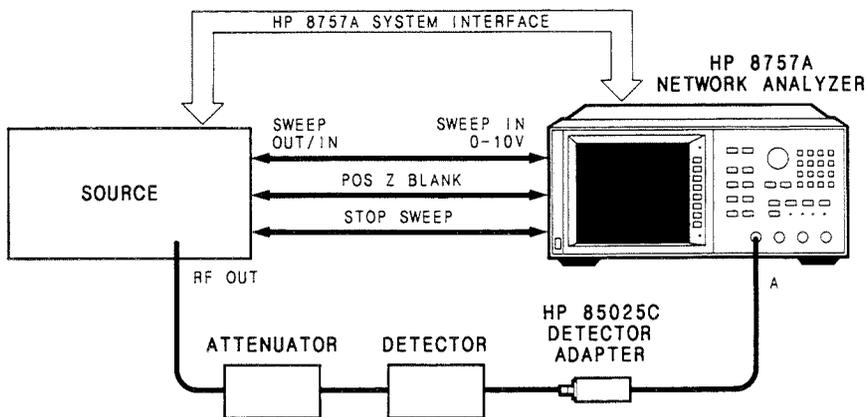

Figure 5. External Detector Measurement Calibration Set Up
1. Connect the equipment as shown in Figure 5. Allow 30 minutes warm up.